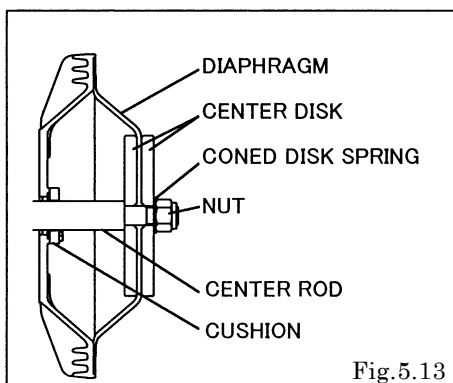

Fig.5.13
- Insert the cushion (except with the NDP-80). [cf. Fig.5.13]
- Draw the center disk to one side (exclude B□H, B□S, B□H/T type cf. Fig.5.13).